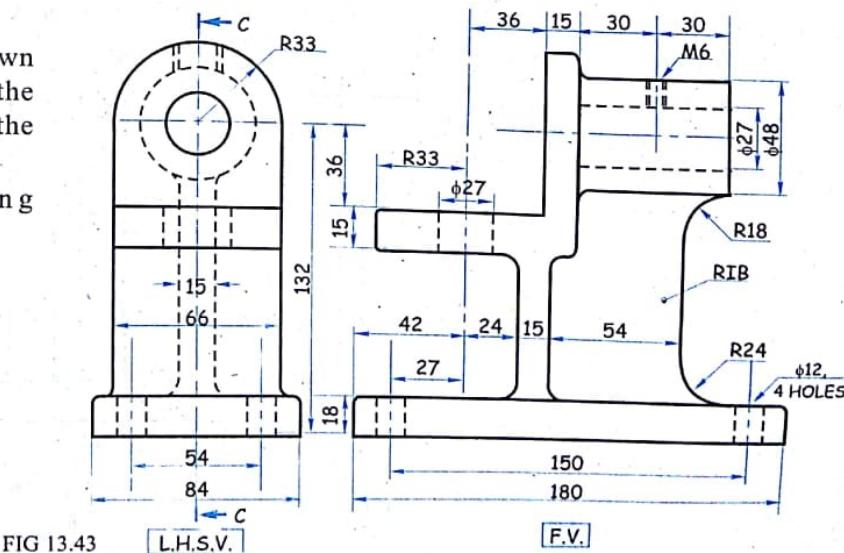

FIG 13.43
- ③ Two view of an object are shown in figure 13.43. Draw by the other method of projection the following views.